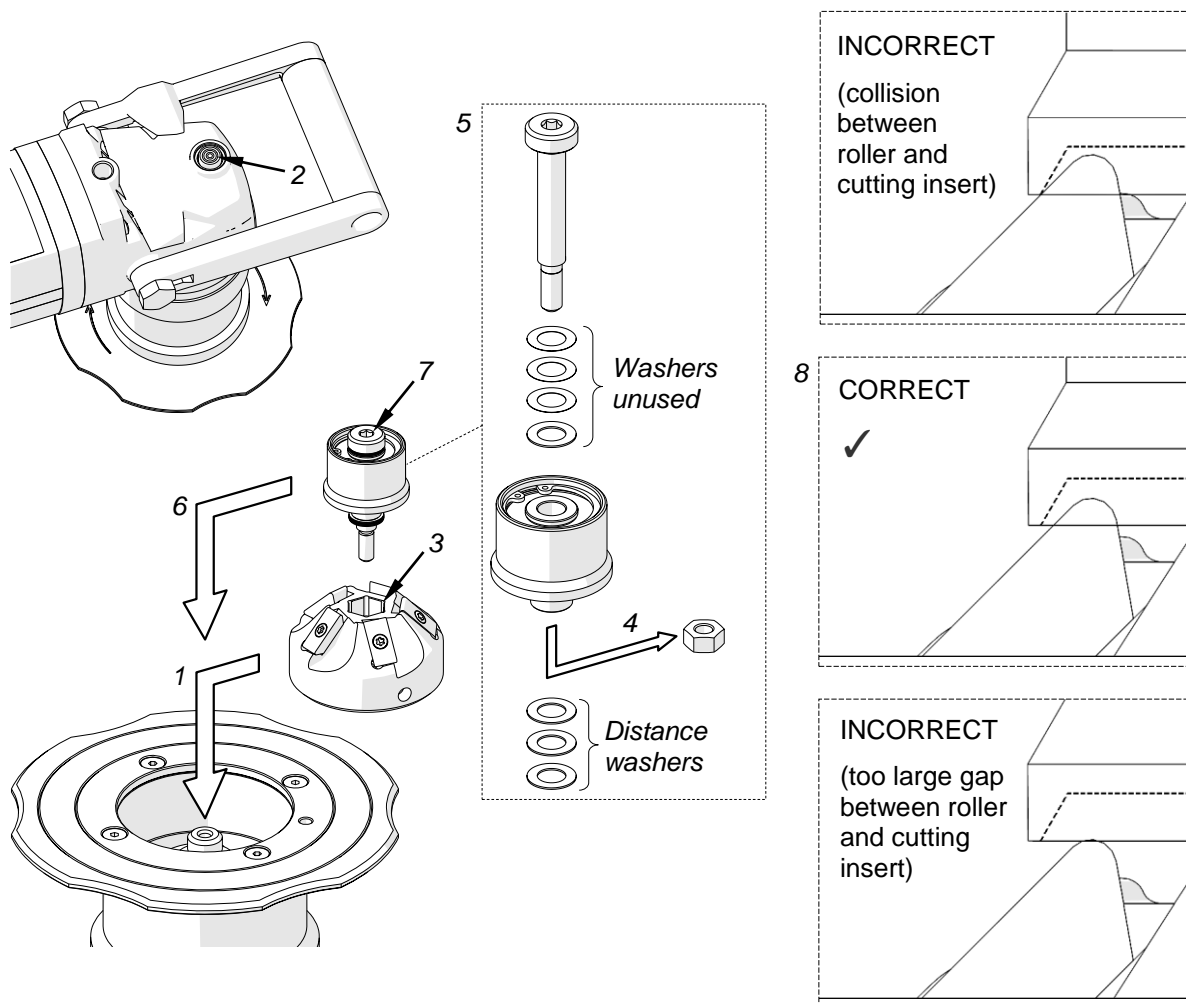

Fig. 3. Installing the milling head
Unplug the machine from the power source. To install the milling head, place it on the spindle (1, Fig. 3), and then hold the spindle lock button 2 and tighten the head using the 14 mm hex wrench (3). Next, remove the nut (4) and assemble the roller with the pivot pin using washers (5), and then place the roller on the milling head (6), hold the button 2, and tighten the roller with the 5 mm hex wrench (7). Use such a number of washers to keep a little gap between the roller and the cutting inserts (8). The number of 0.5-mm and 0.1-mm washers needed depends on the milling head used.